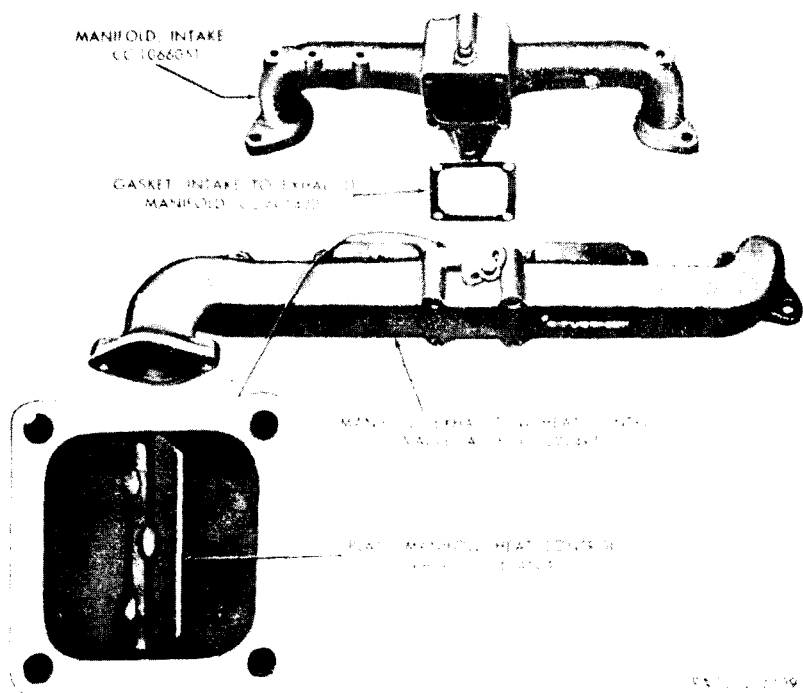

Figure 92. Intake and exhaust manifolds.
l. Assembly and Installation of Manifolds. The intake and exhaust manifold assembly, with heat control valve (fig. 92) is assembled and machined as a unit in production and parts cannot be interchanged unless facilities are available to grind the flange surfaces as an assembly. Before starting to assemble the intake and exhaust manifold assembly, with heat control valve, inspect the heat control valve.